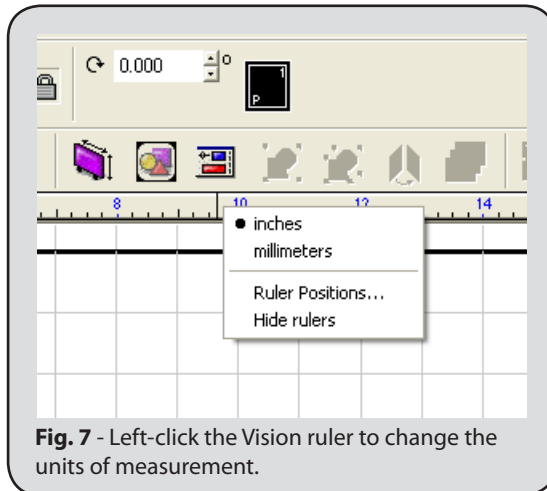

Fig. 7 - Left-click the Vision ruler to change the units of measurement.
- ❑ Left-click the ruler and choose either **Inches** or **Millimeters** from the context menu (Fig. 7).